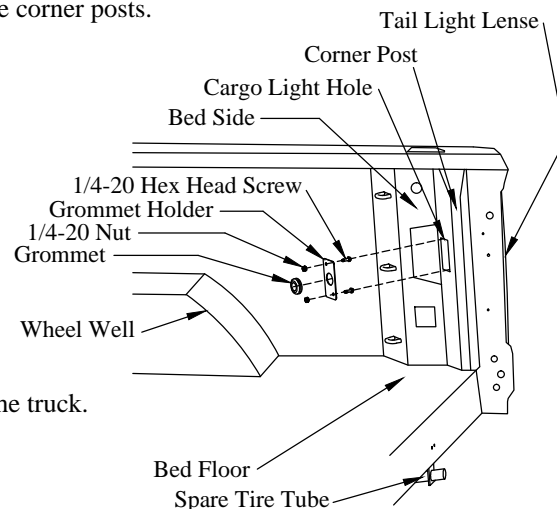

Figure 11: Factory cargo light location.
1. **Remove** the tail light lenses (Figure 11).
2. **Remove** the cargo light from the corner post (Figure 11).
4. **Install** a grommet holder in each opening in the corner post where the cargo lights were removed (Figure 11).
5. **Install** a grommet into each grommet holder (Figure 11).